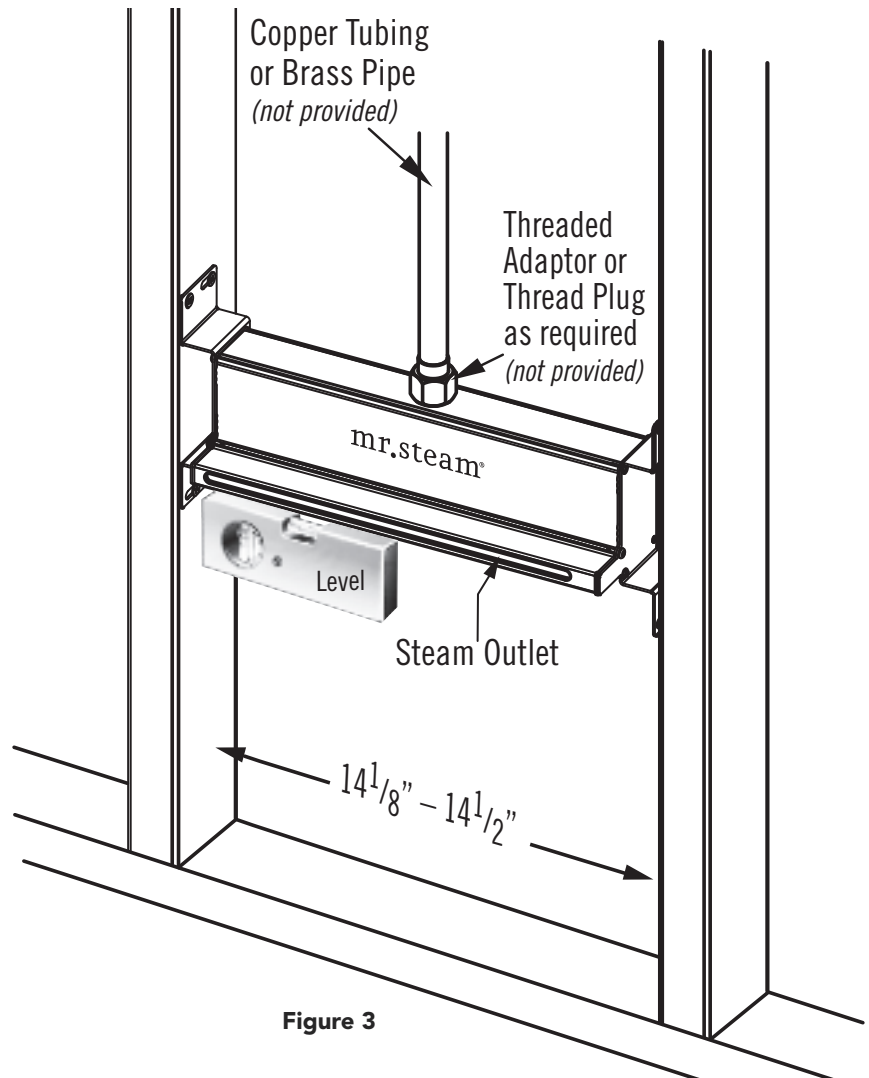

Figure 3
4. Use a level to ensure the steam head is level in both the horizontal and vertical positions (see Fig. 3) and the steam head face is flush or extend 1/8" from the finished wall surface. Install the four screws in the mounting holes to secure the steam head.